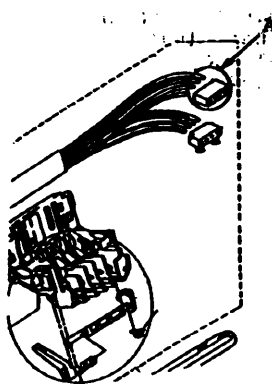

Figure 1: Carriage unit (2)
1. Supply joint (B) : A in Figure 1, QB1-0075